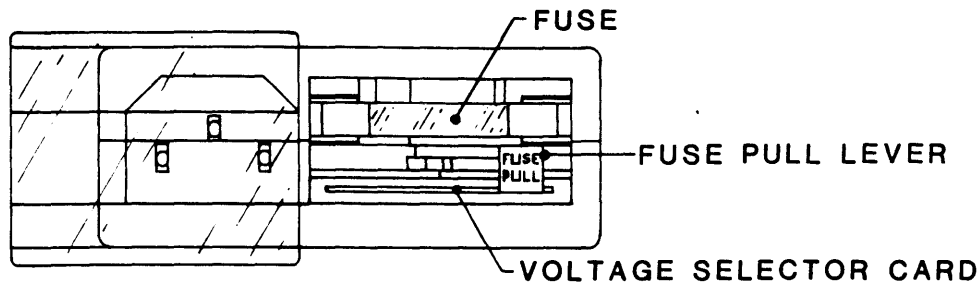

Figure 2-5 Power-In Assembly
Unless otherwise ordered, the Drive is factory-set for 120-volt operation. Other voltage choices can be 100, 220, or 240. Locate the Power-In Assembly (Figure 2-5) at the rear of the unit (Figure 2-6), and verify that the Voltage Selector Card behind the plastic slide cover is installed with the correct voltage legible (as ordered).
- A) Remove the ac power cord (if installed) from the Power-In Assembly (Figure 2-5), slide the plastic cover to the left and, using long nose pliers (if necessary), remove the Voltage Selector Card.